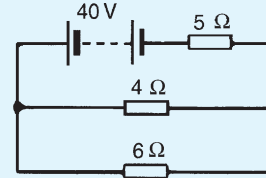

Figure 13.14
- Use Kirchhoff's laws to find the current flowing in the  $6\ \Omega$  resistor of Fig. 13.14 and the power dissipated in the  $4\ \Omega$  resistor.